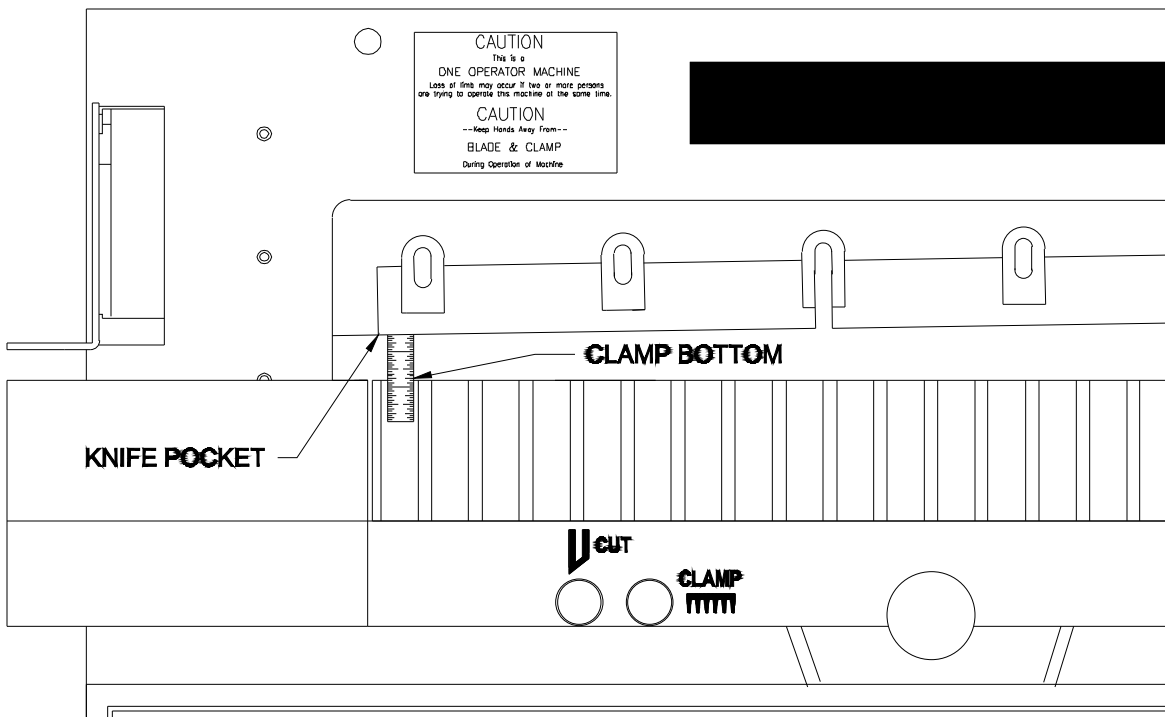

Fig 19
4. With the blade beam and the clamp in the full up position, use a 6" ruler, and place it up into the space where the knife would be, on the extreme left side. Push the ruler up until it bottoms out in the blade pocket. Fig. 19.